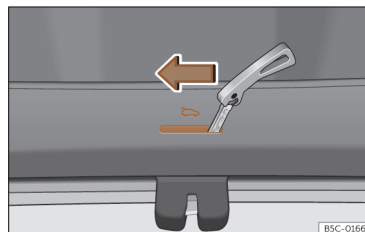
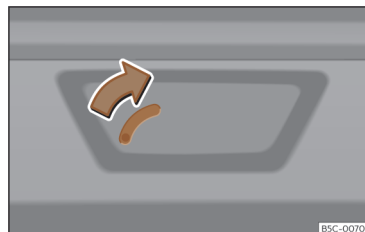

Fig. 83 Luggage compartment: manual release.
Fig. 84 Luggage compartment: manual release (Leon Sportstourer).
- Insert the key blade into the slot and move the key in the direction of the arrow until the lock unlocks >>> **Fig. 83**, >>> **Fig. 84**.